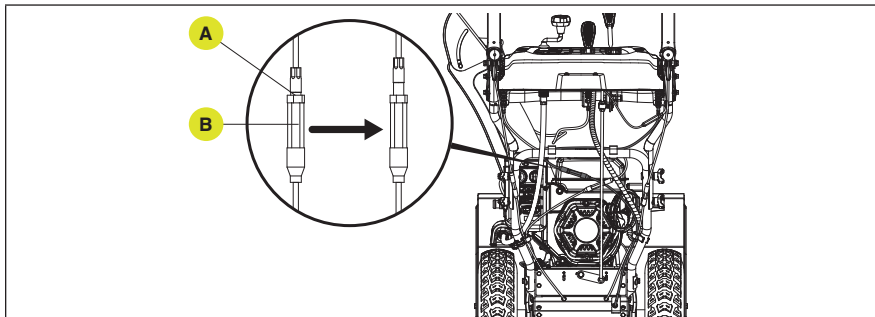

Figure 38
Tighten the cable and reduce the length of stage 1 to approximately what is shown above visually. Do not reduce the length of stage 1 to almost none, there will be a risk of no disengagement. Slide rubber boot back, loosen the nut (A) counterclockwise, then loosen the center bolt (B) clockwise. Test function. Tighten the nut clockwise against the long sleeve bolt. Slide rubber boot back to cover the nut. (Fig. 38)